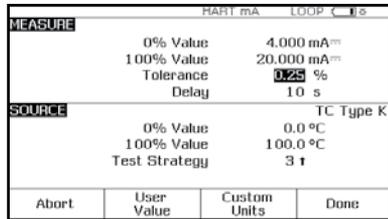

Figure 21.
3. If source was not configured in the previous step press the Measure/Source button and configure the source for a type K thermocouple. Press Measure/Source until you are at the dual screen. Press the **As Found** softkey and press **ENTER** to select **Instrument** calibration. Move the cursor to **Tolerance** and **ENTER** the appropriate test tolerance (0.25 % in this example). Verify that the **0 % Source Value** and **100 % Source Value** are the proper, **nominal** operating values for the transmitter (0.0 °C and 100.0 °C in this example, Figure 21). If the Lower (0 %) and Upper (100 %) Range Values (LRV and URV) have been previously modified for calibration purposes, you will need to **ENTER** the nominal values. For example, if a previous calibration modified the URV to 100.2 °C, you need to manually **ENTER** the nominal value of 100.0 °C for the **100 % Value**. Entering nominal zero and span values ensures that errors are calculated correctly.